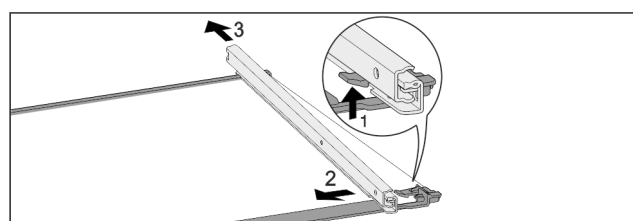

Fig. 115 Glass shelf with rails
- Push up front click-in hooks. Fig. 115 (1)
- Move the pull-out rails to the side Fig. 115 (2) and to the rear Fig. 115 (3).